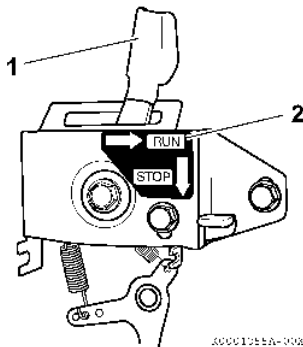

Figure 56
5. Move the engine control lever (**Figure 56, (1)**) to the RUN position (**Figure 56, (2)**).